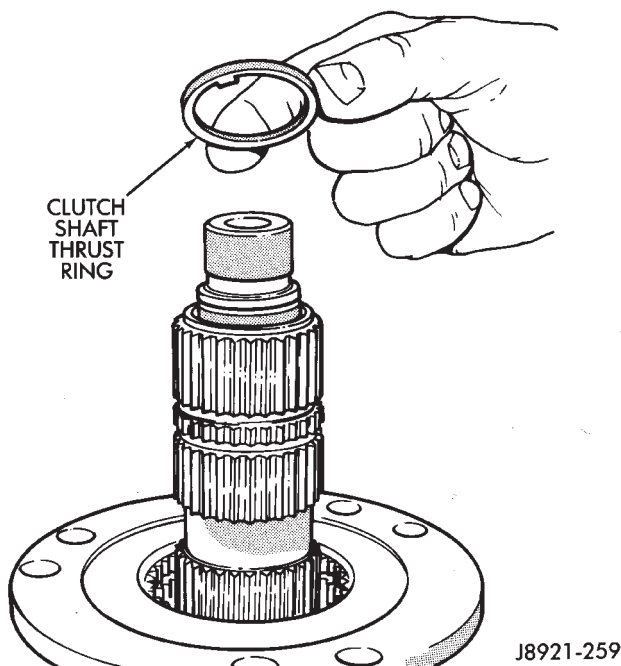

Fig. 28 Clutch Shaft Thrust Ring Removal
- (8) Remove clutch shaft thrust ring (Fig. 28).